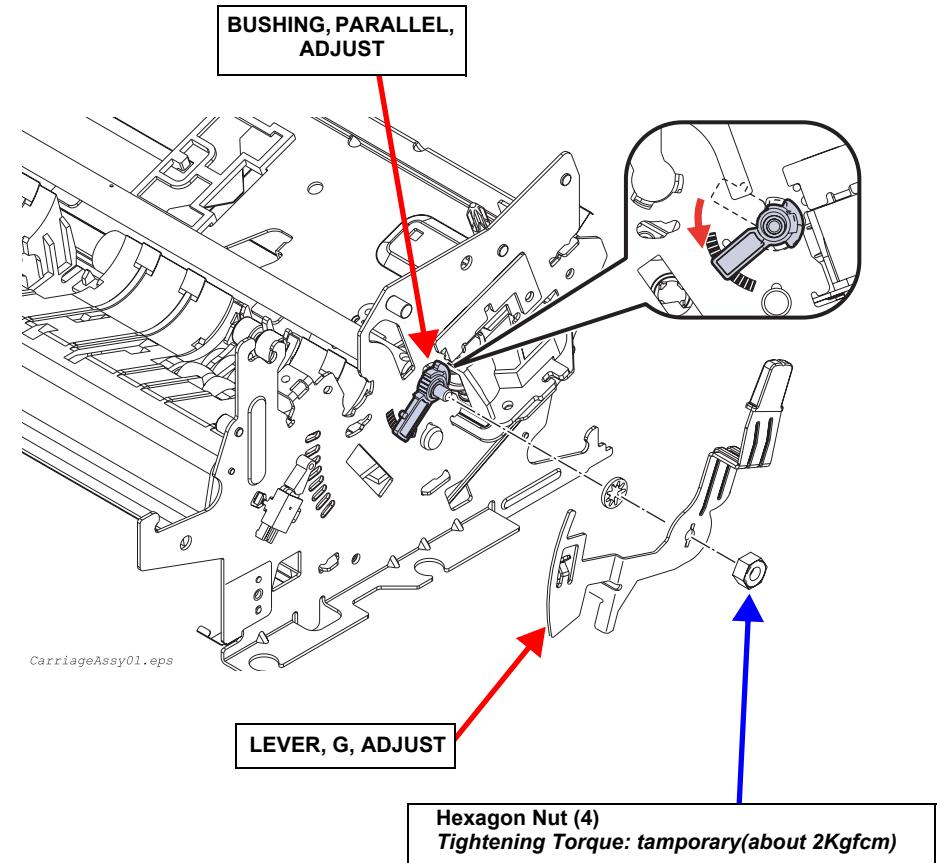

Figure 4-26. Carriage Assembly Removal 1
5. Remove the hexagon nut (M4) and the washer securing the LEVER,G,ADJUST to the SHAFT,CR,GUIDE, and remove the lever. (*See Figure 4-26*)
3. Remove the hexagon nut and the washer securing the LEVER,G,ADJUST to the SHAFT,CR,GUIDE, and remove the lever. (See Figure 4-26)
4. Remove the BUSHING,PARALLEL,ADJUST to turn the SHAFT,CR,GUIDE. (See Figure 4-26)
3. Remove the hexagon nut and the washer securing the LEVER,G,ADJUST to the SHAFT,CR,GUIDE, and remove the lever. (*See Figure 4-26*)
4. Remove the BUSHING,PARALLEL,ADJUST to turn the SHAFT,CR,GUIDE. (*See Figure 4-26*)